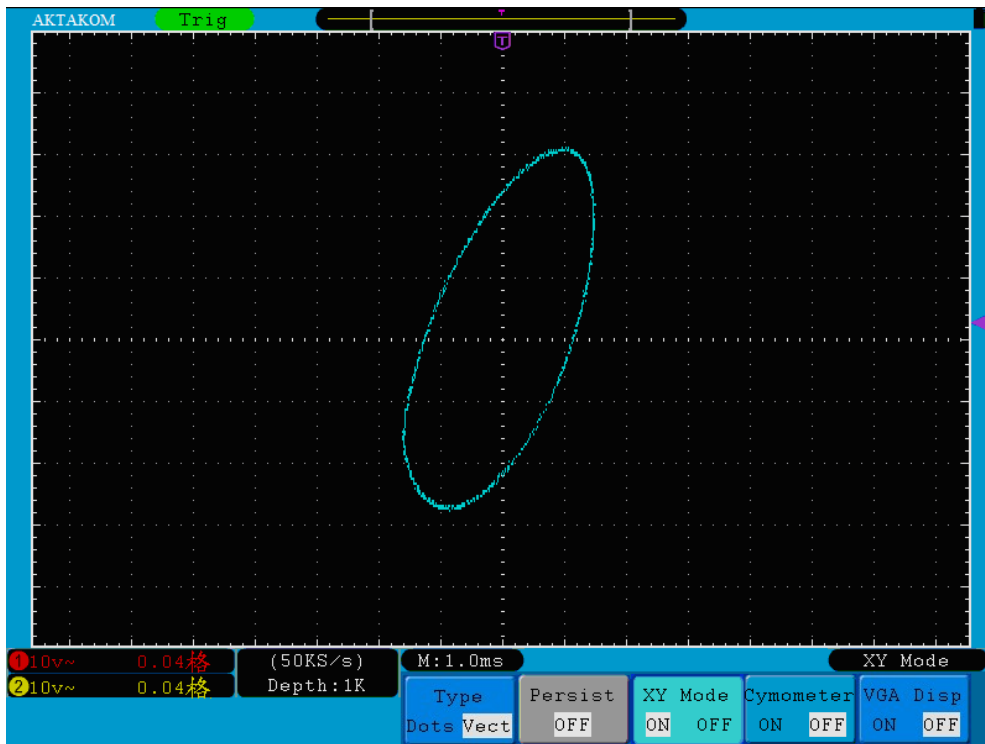

Fig.5-33 XY Display Mode
2. Press the **H3** menu selection button to set XY Mode **ON**. The display format is changed to be XY mode (see **Fig.5-33**).